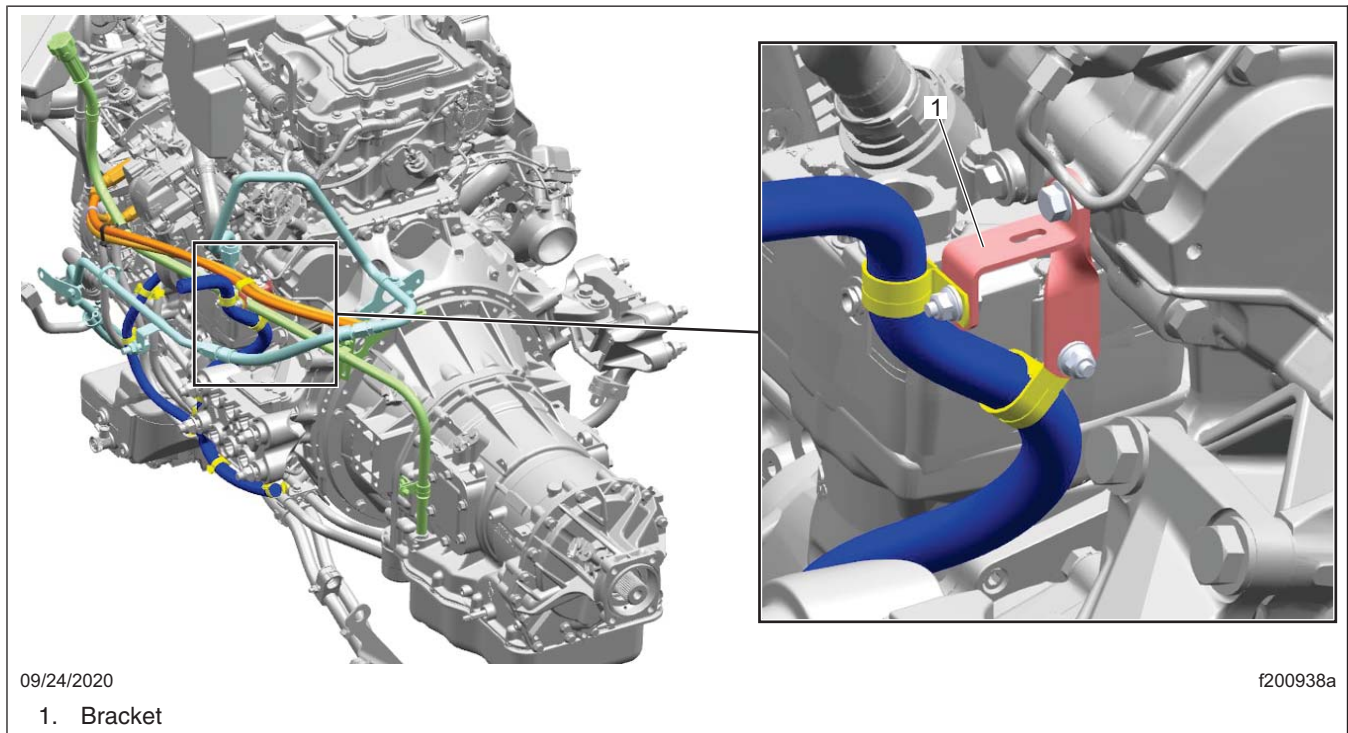

Fig. 26, Bracket Location
14. Install two new standoff brackets at the left rear of the engine, replacing the existing fuel line standoff bracket with 23-13514-020 and adding bracket (23-09130-042). Use screw (23-13345-020) to mount both the brackets on the engine housing. See Fig. 26 for correct location and orientation of the bracket.